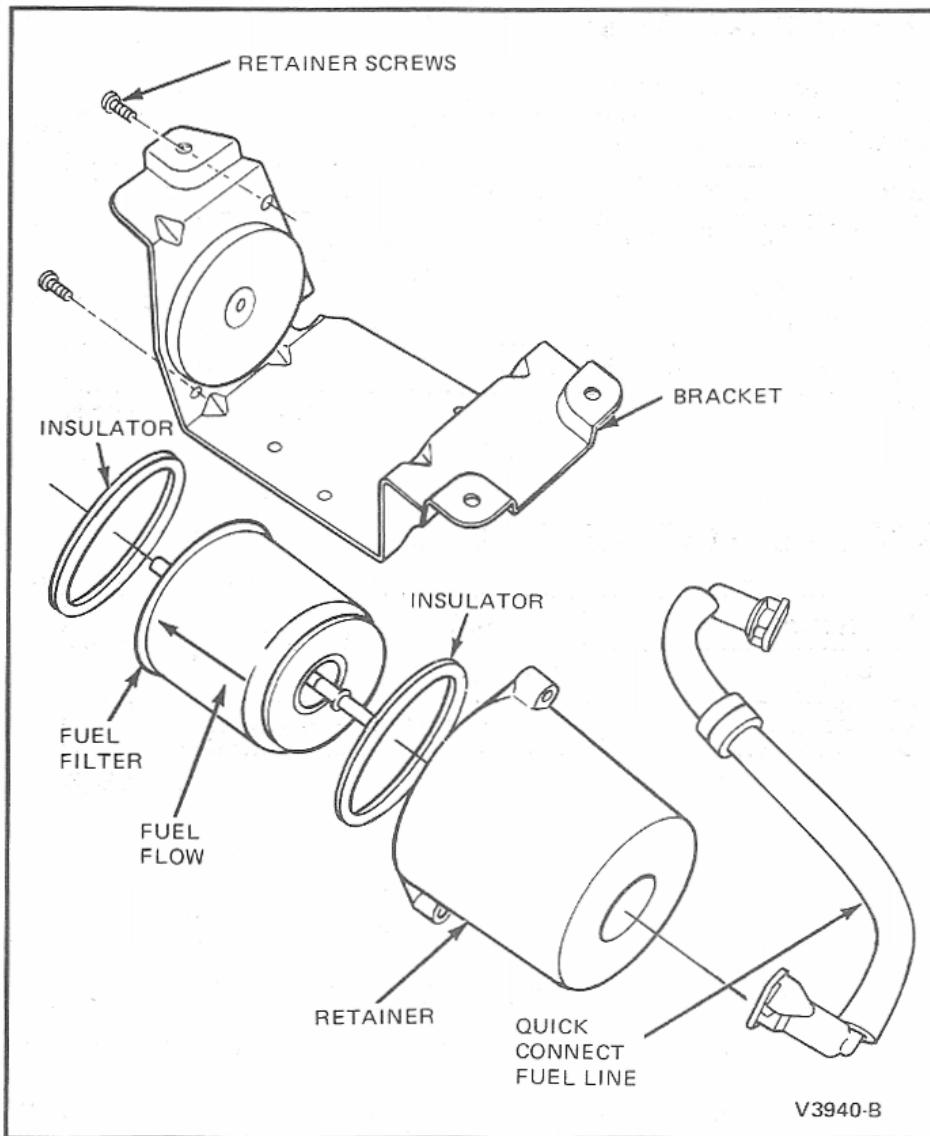

FIG. 5 Fuel Filter, In-Line
The purpose of the in-line fuel filter is to provide filtration to protect the small metering orifices of the injector nozzles. The filter is located downstream of the electric fuel pump and is mounted on the underbody forward of the right rear wheel well kick-up (Fig. 5).
1. Place the filter into the fuel filter retainer with the flow arrow pointing out of the open end of the retainer (Fig. 5).